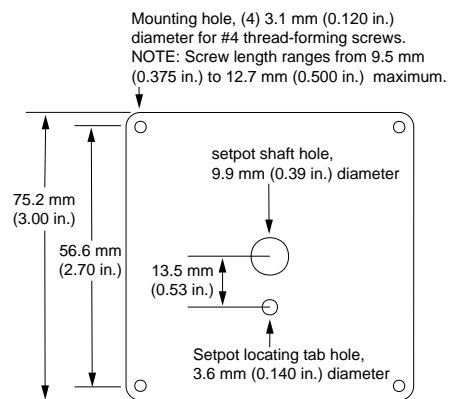

Figure 2c — Series 101 mounting.
2. Using the dial scale as a location/drilling template, locate and center punch the setpot locating tab, setpot shaft and four mounting holes at the desired location. See Figure 2c.